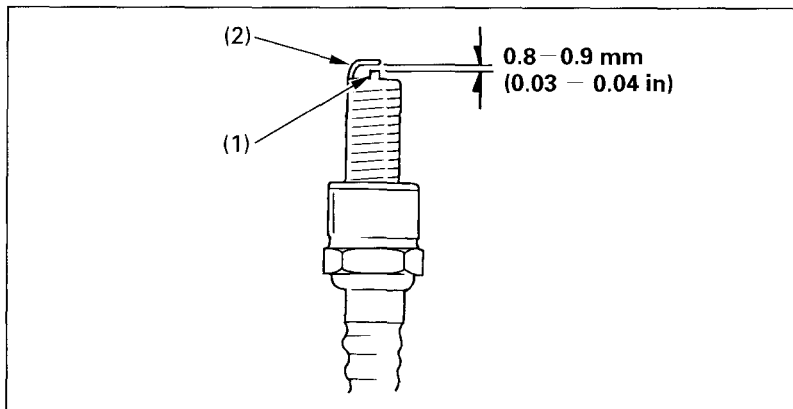

Fig. 4-17 (1) Center electrode (2) Side electrode
4. Visually inspect the spark plug electrodes for wear. The center electrode (Fig. 4-17) should have a flat tip and sharp edges, and the side electrode (2) should not be eroded. If the electrodes and insulator tip appear unusually fouled or burned, we suggest that you contact your authorized Honda dealer.